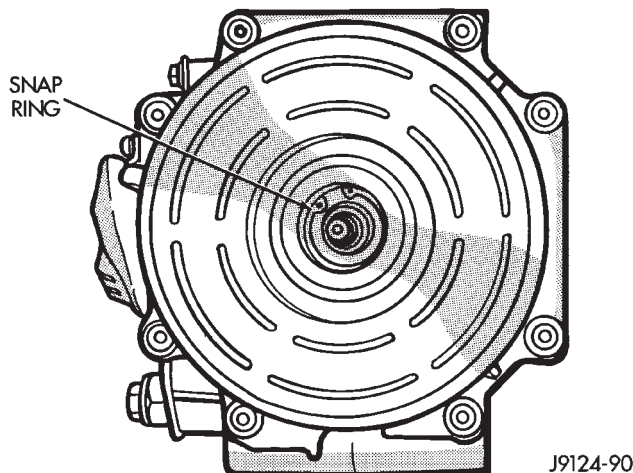
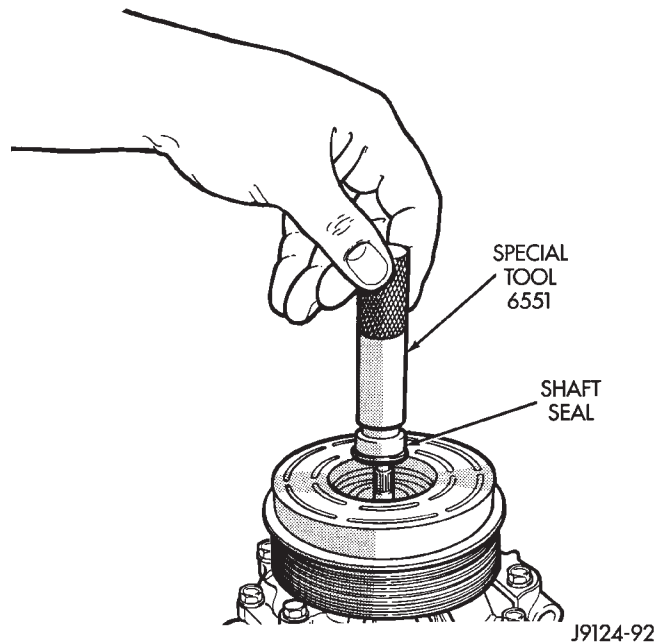
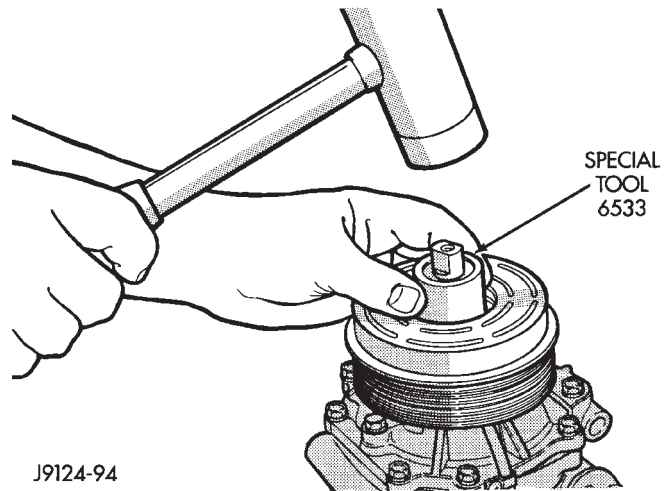

Fig. 8 Compressor Shaft Seal Snap Ring
Fig. 9 Compressor Shaft Seal
Fig. 11 Shaft Bearing Installation
- (5) Remove snap ring using snap ring pliers (Fig. 8).
(6) Insert Lip Seal Removal/Installation Tool 6551 and twist the tool until it is engaged into the slots of the seal case (Fig. 9). Carefully lift out seal assembly.
- (2) Apply a little oil on seal sleeve protector.
- (3) Apply oil on O-ring portion of the lip seal.
(4) Engage the slots of the Lip Seal Removal/Installation Tool 6551 to the lip seal cage. Install the lip seal into place by pushing gently over the seal protector (Fig. 9).
(5) Twist tool and remove from the seal. Remove seal sleeve protector.
(6) Install snap ring into the snap ring groove (Fig. 8). Push snap ring down to ensure correct positioning by using opposite end of Lip Seal Removal/Installation Tool 6551.
(7) Replace felt washer.
(8) Position the shaft bearing into front boss.
(9) Install bearing with Shaft Bearing Removal/Installation Tool 6533. Use the 2 jaws, the jaw retainer and the collet and gently hammer with a plastic hammer to seat the bearing (Fig. 11). The use of this tool will properly position the bearing.